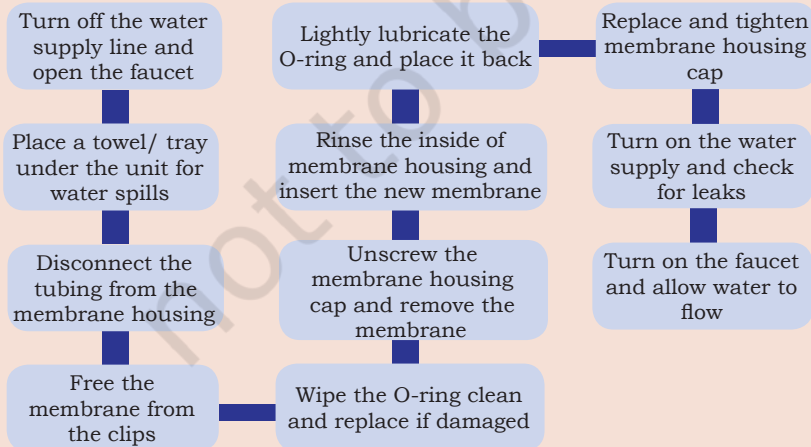

Fig. 5.25: Steps of cleaning the membrane
7. Fig. 5.25 explains the steps involved in changing the membrane.